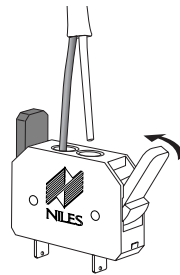

Figure 16 No-Strip Speaker Wire Terminal.
5. Insert one unstripped wire fully into the black and one into the red terminal. Pay attention to the markings on the wire. Each speaker must be connected to the amplifier in the same way. Squeeze the red and black levers until they click signifying that they have locked into the wire. Check to make sure that the knife assembly inside the no strip connector has properly pierced the wire (**See Figure 16**).